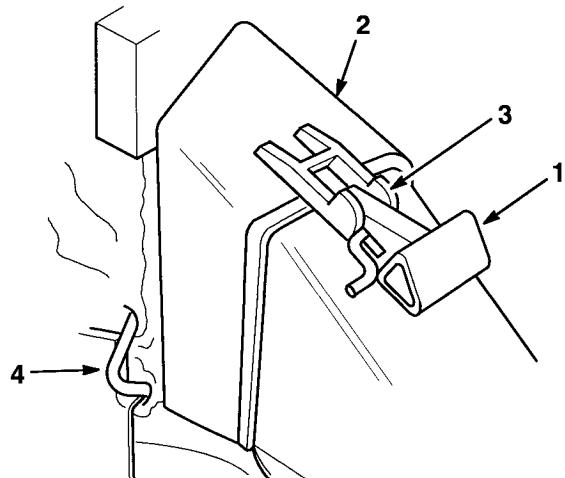

Figure 23
2. Ensure discharge door handle is fully forward (door closed) (Fig. 23).
3. **INSTALLING BAG**—Fit bag door opening over discharge tunnel opening as shown in Figure 23. Bag door latches should straddle door handle. Bag rod hook should be in front of handle bracket. Set rear of bag frame onto lower handle.
5. **EMPTYING BAG**—Stop engine and wait for all moving parts to stop. Lift door latch until it clears bag notch and move discharge door handle forward (Fig. 23). Grasp bag frame handle and rear of grass bag and lift bag off mower. Gradually tip bag forward to empty clippings.